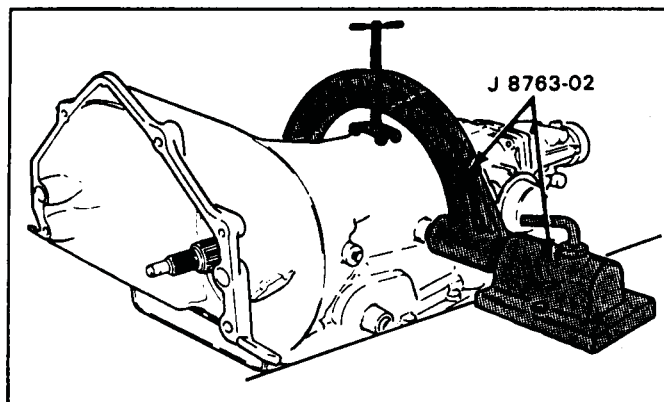

Figure 42
3. Install holding fixture, as shown in Figure 42, on transmission case.
4. Install transmission into the fixture base on work bench, as shown Figure 42.